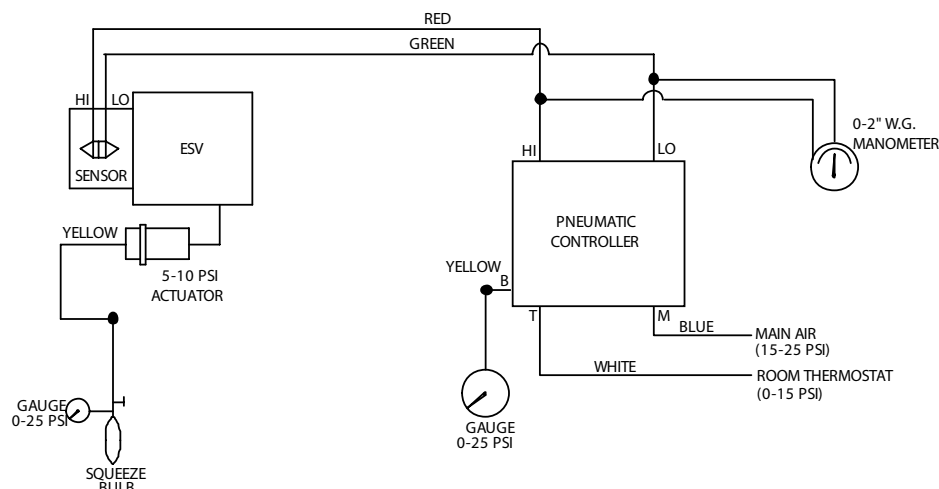

Figure 4. Controller Setup
3. Connect 0 to 25 PSI gauge to controller Port B (Figure 4).